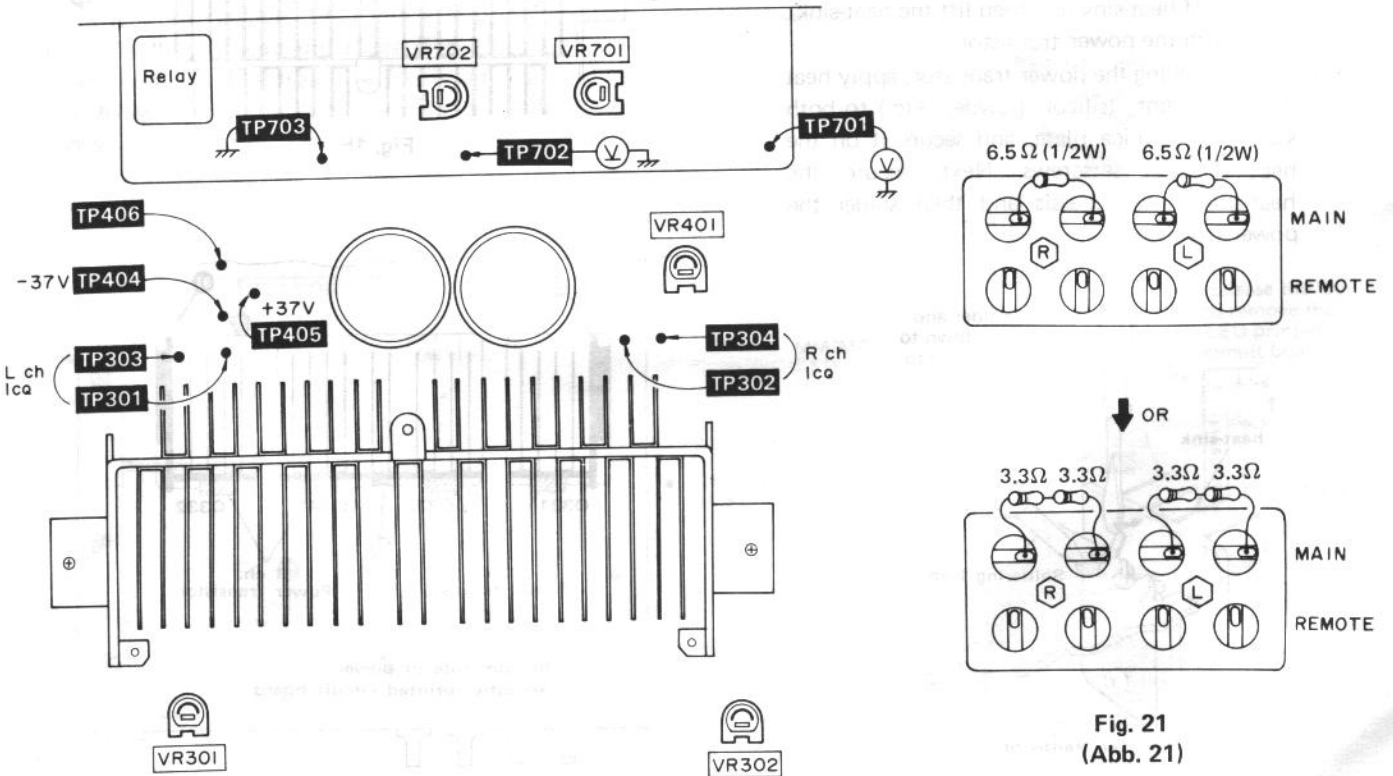

Fig. 21 (Abb. 21)
- ① Connect a load with 6.5Ω (1/2W carbon resistor) or series-connected 3.3Ω and 3.3Ω (1/2W, ±5%) to the "main" speaker terminal, (Fig. 21)
- ② Connect a DC voltmeter between TP701 and chassis, TP702 and chassis.
- ③ Connect TP703 and chassis.
- ④ Completely turn VR701 clockwise.
- ⑤ Adjust VR702 so that the voltage of TP702 is -0.1V.
- ⑥ Adjust VR701 so that the voltage of TP701 is 0V.